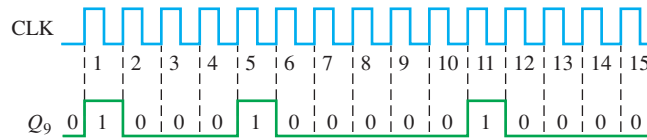

FIGURE 8–61
28. The waveform pattern in Figure 8–61 is required. Devise a ring counter, and indicate how it can be preset to produce this waveform on its Q_9 output. At CLK16 the pattern begins to repeat.